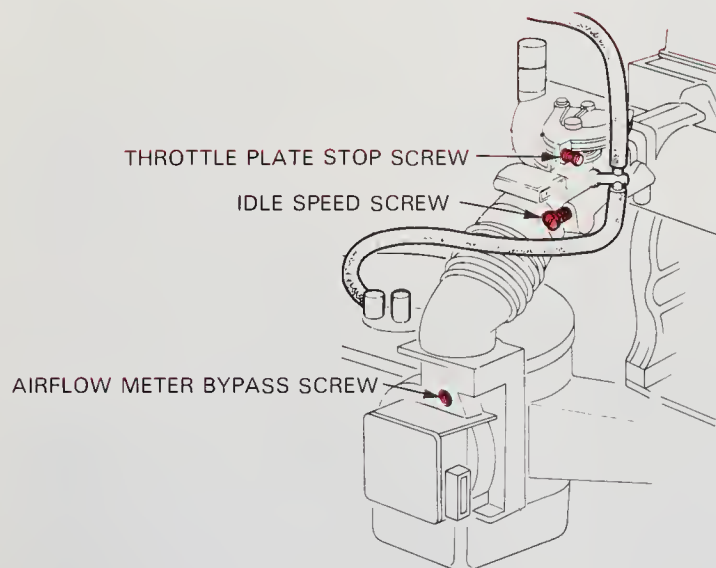

Fig. 22-26. Adjustments and their access locations will vary with particular model and type of gasoline injection. These are typical of one system. (Renault)
1. Engine idle speed adjustment, Fig. 22-26.
2. Throttle plate stop adjustment, Fig. 22-26.
3. Idle air-fuel mixture adjustment, Fig. 22-26.